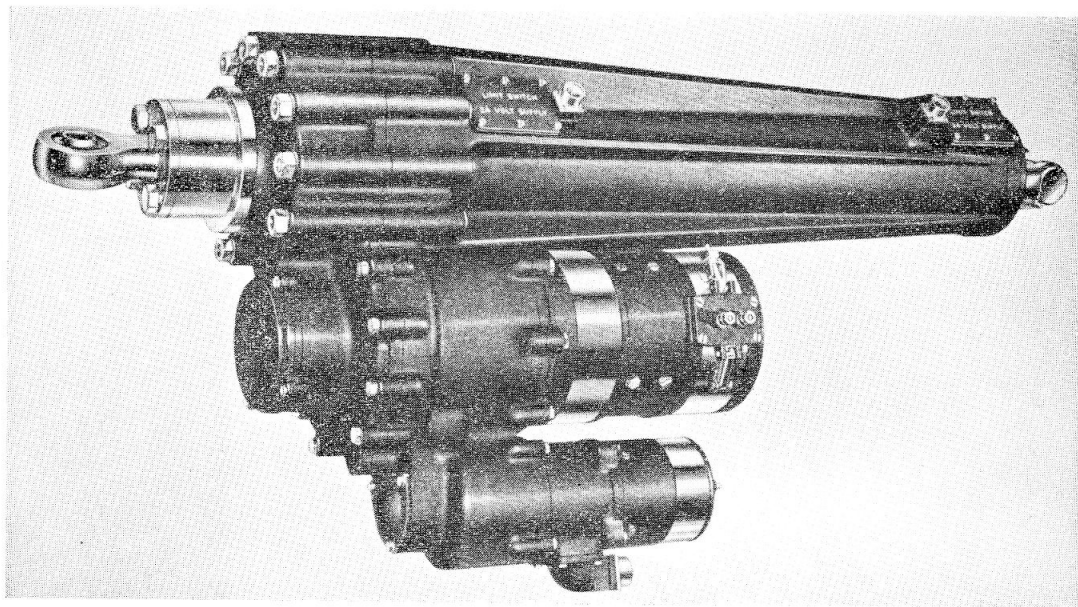
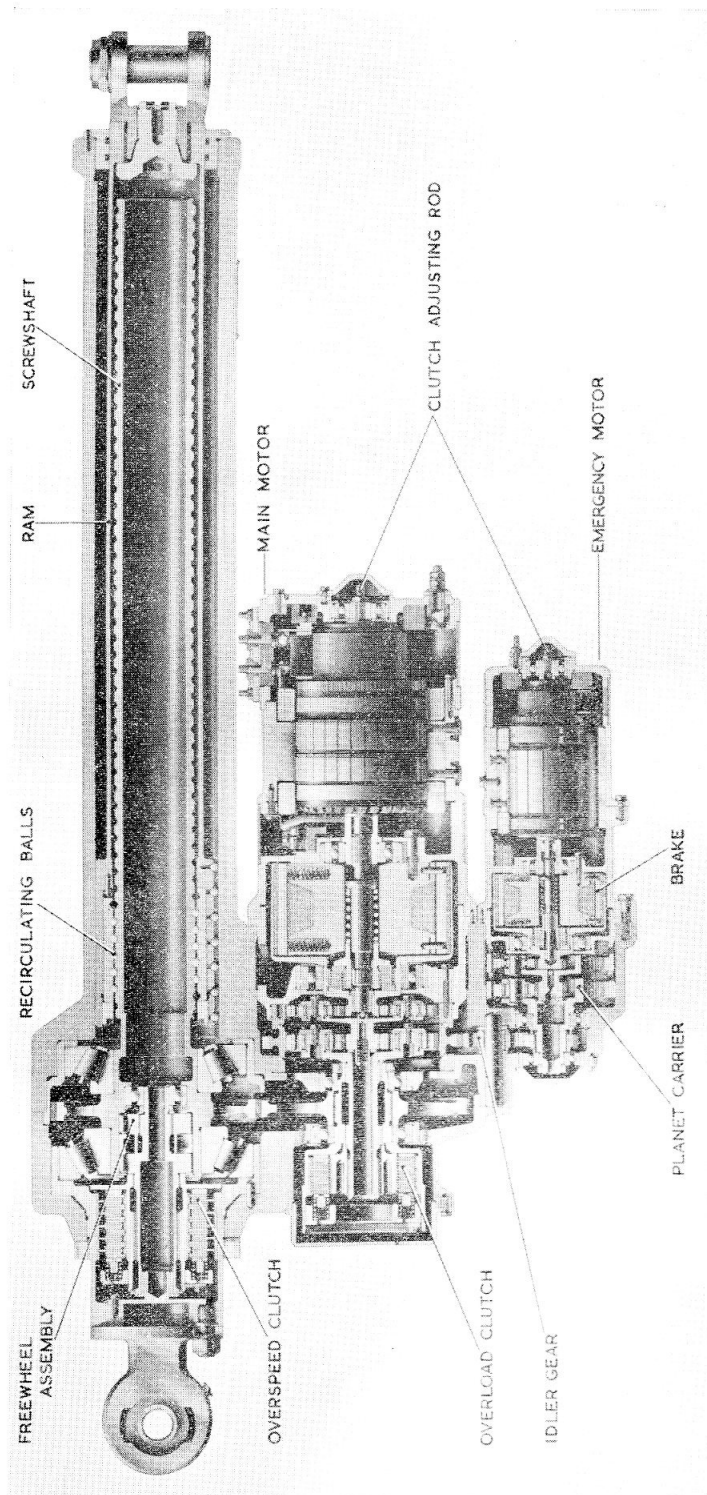

Fig. 1. Typical A0100 series actuator
Fig. 2. Sectional view
2. A typical actuator in the series is shown in fig. 1, with a sectional view in fig. 2. These actuators have their motors offset from, and parallel to, the ram axis. Each machine consists of a main motor, emergency motor and the ram and screwshaft assembly.
11. A high efficiency thread of the recirculating ball type is employed (*fig. 2*), torque reaction between the ram and the screwshaft being absorbed by the three sets of steel balls located in the ram and running in steel guides in the ram housing. The screwshaft is supported at its root by taper roller bearings. An eye-bolt is splined to the ram and is secured by a tension pin.